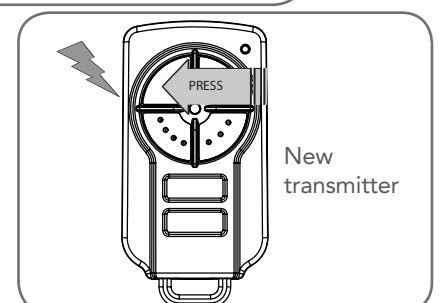

Fig 10.5
- Within 10 seconds, press the button on the new transmitter you wish to code for 2 seconds and release (**Fig. 10.5**).